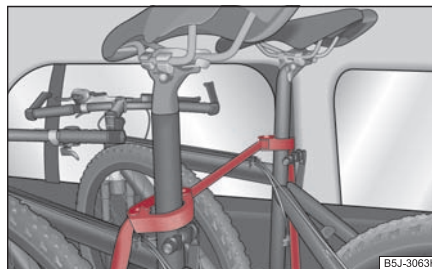

Fig. 96 Securing the bicycles with clamps
- Position the clamp with the rubber part to the front (in direction of travel) as far as possible below the saddle rod and close the clamp ⇒ fig. 96.
- When transporting two bicycles tension the strap ⇒ fig. 96 between the saddle rods, by pushing the bicycles apart.